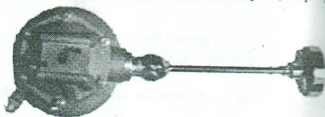

Fig 11b
- Undo the plugs of filler spout and drain hole and drain the used oil out (Fig 11b).